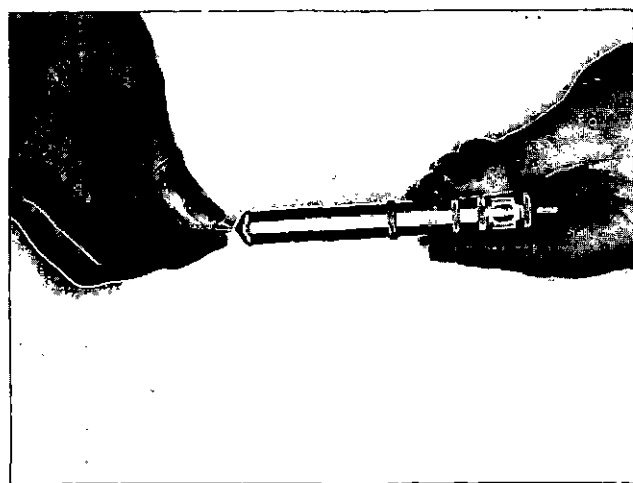

Fig. 4-57, (F60143). Check the orifice with the orifice size gauge
**Note:** Use ST-1332 to check the orifice plug inside diameter. The tool is especially helpful if the orifice plugs become mixed. Measure the orifice plug at the base end (not the wrench end) as shown in Fig. 4-57.